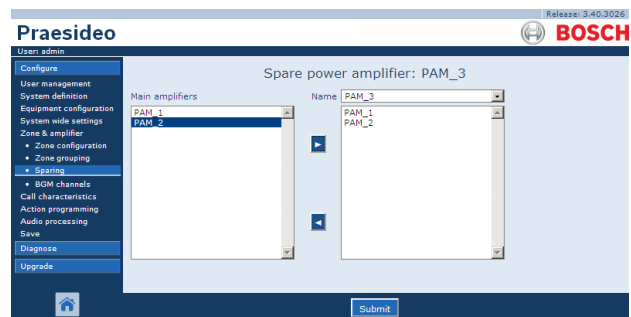

figure 45.13: *Sparing, step 3*
- 3 Select the main amplifier that must be assigned to the spare amplifier from the left box (see figure 45.13).